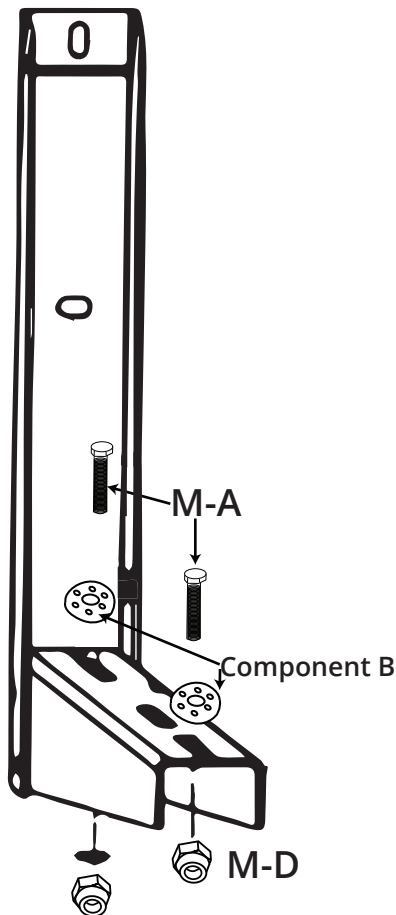

Fig. 2.1
1. Take each folded bracket (Fig. 2.1) and open making one support stand upright and the other pointed towards you.